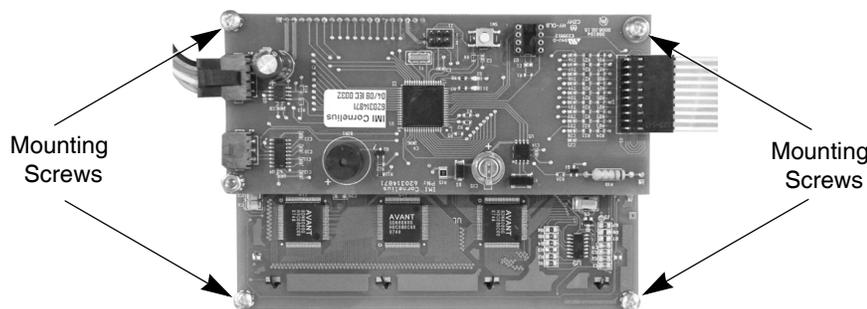

Figure 55. View of Display Board
The display board is located on the back of the control panel display. It is mounted to the panel with four (4) Philips head screws, shown in Figure 55.